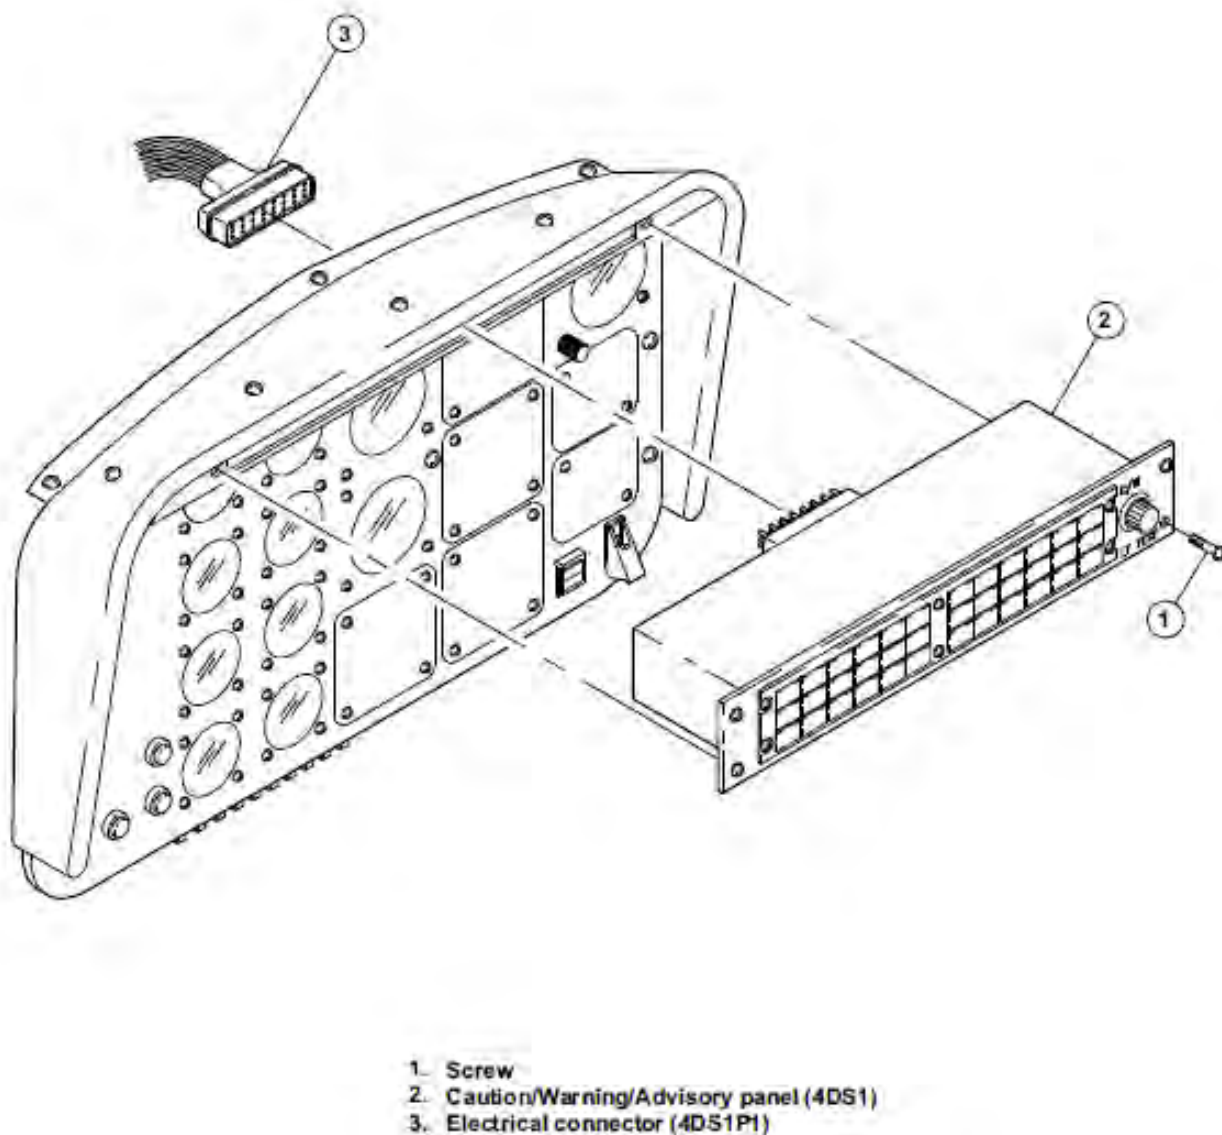

Figure 96-50: Caution/Warning/Advisory Panel (4DS1) - Removal and Installation
4. Disconnect the electrical connector (4DS1P1) (3, Figure 96-50) from the caution/warning/advisory panel (4DS1) (2).
5. Remove the screws (1) that attach the caution/ warning/advisory panel (4DS1) (2) to the glareshield.
6. Remove the caution/warning/advisory panel (4DS1) (2).
1. Install the caution/warning/advisory panel (4DS1) (2, Figure 96-50) into its position in the glareshield.
2. Install the screws (1) to secure the caution/ warning/advisory panel (4DS1) (2) to the glareshield.
3. Connect the electrical connector (4DS1P1) (3) to the connector of the caution/warning/advisory panel (4DS1) (2).